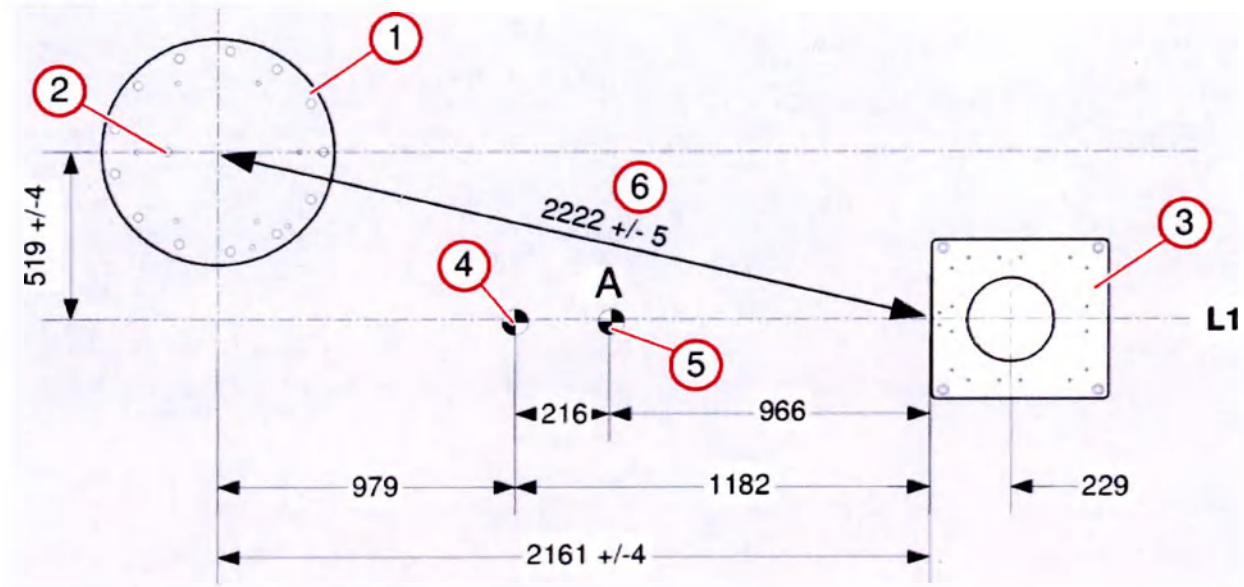
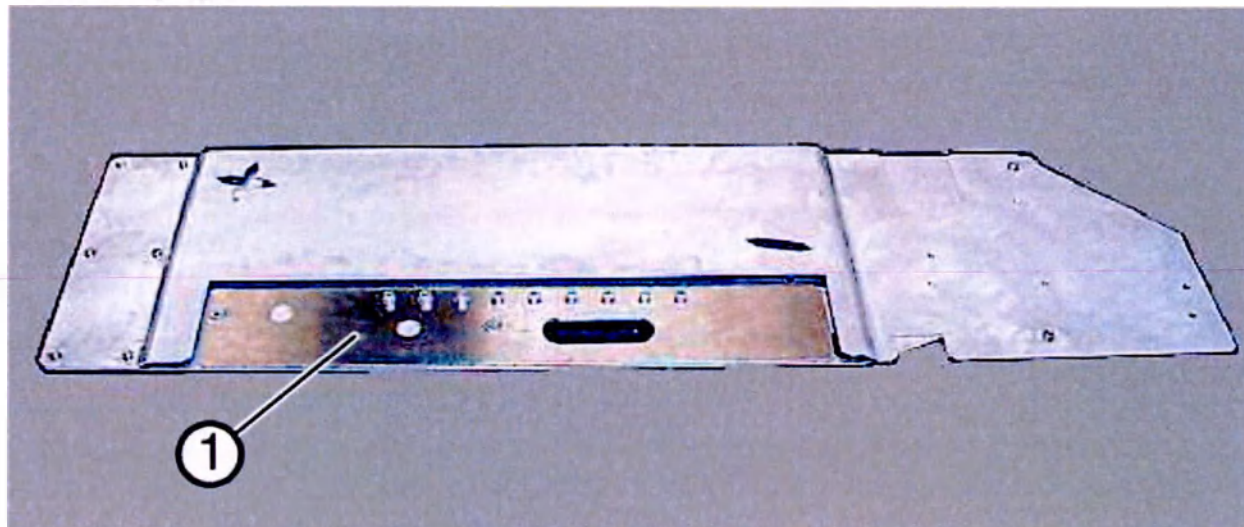
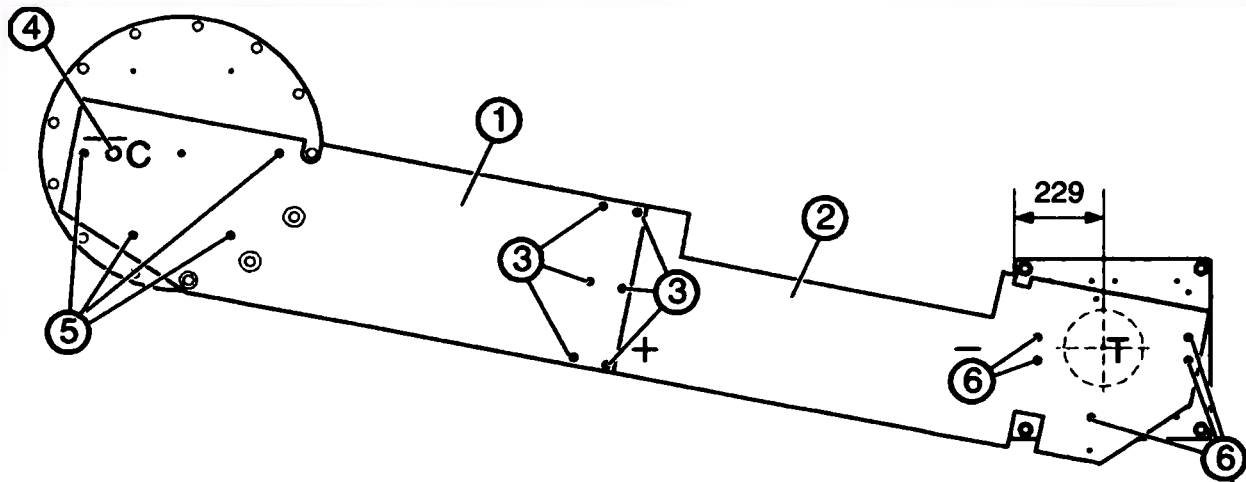

Fig. 1: Making the marks
Fig. 2: Installation gauge
Fig. 4: Positioning the installation gauge
- Make the following marks on the floor in accordance with the Project Plan and Fig. 1:
- If an installation gauge is not used: Isocenter for the floor stand in the head-end position Fig. 1 (4)
Mark A Fig. 1 (5)
The installation gauge is needed to align the mounting plates Fig. 2. The installation gauge is comprised of three aluminum plates that are shipped bolted together.
The installation gauge is bolted to the mounting plates for the floor stand and table using the screw with which the plate Fig. 2 (1) is attached Fig. 4.
The plate Fig. 2 (1) is intended for aligning the ceiling stand longitudinal rails with a biplane system and is not needed for the "Artis one" system.
Assemble the two parts of the installation gauge Fig. 4 (1, 2) with screws and attach it to the mounting plates for the floor stand and table. When doing this, make sure that pilot hole C in the installation gauge Fig. 4 (4) lines up with pilot hole C in the mounting plate Fig. 1 (2).